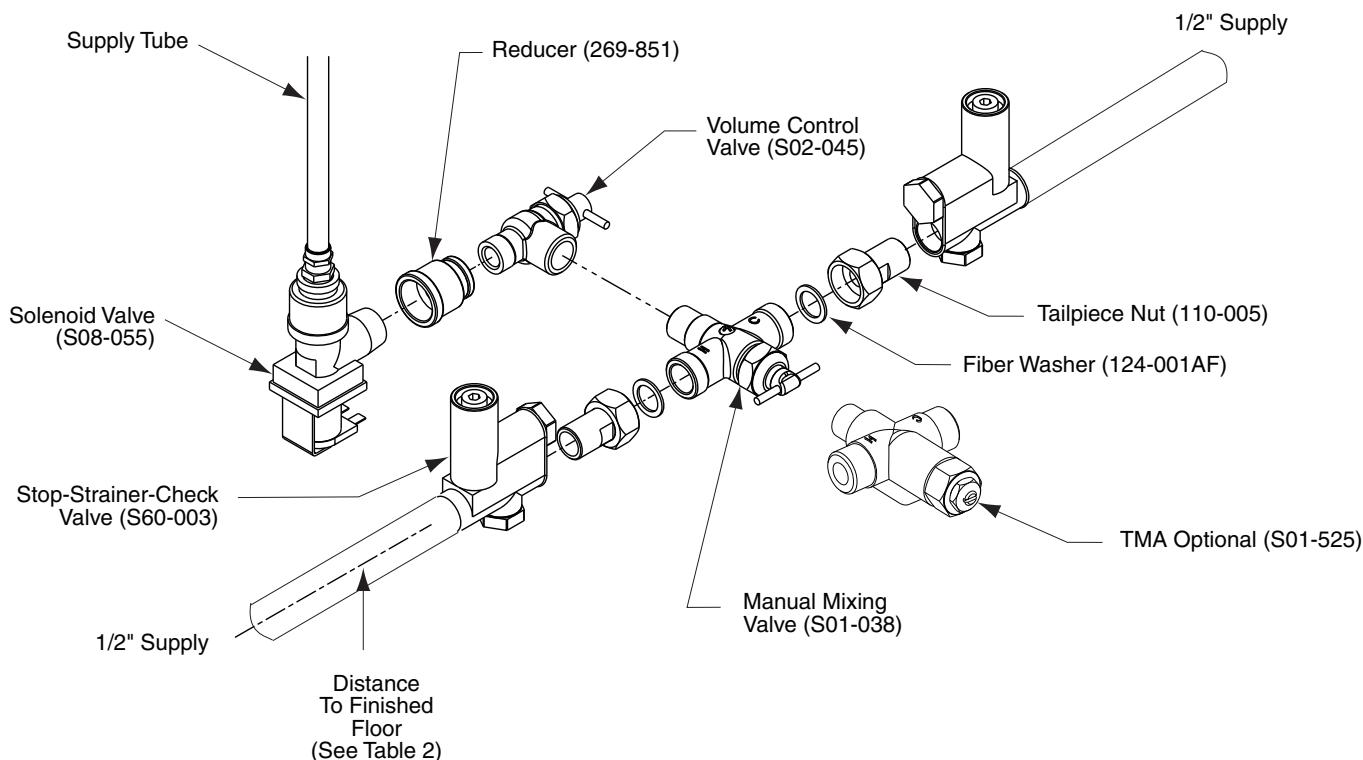

Figure 10
1. Connect the stop-strainer-check valves, mixing valve, volume control valve, and solenoid valve assembly as shown in Figure 10.
3. Install the valving assembly, using suitable fittings, to the supplies as shown in Figure 10 at the approximate height indicated in Table 2.